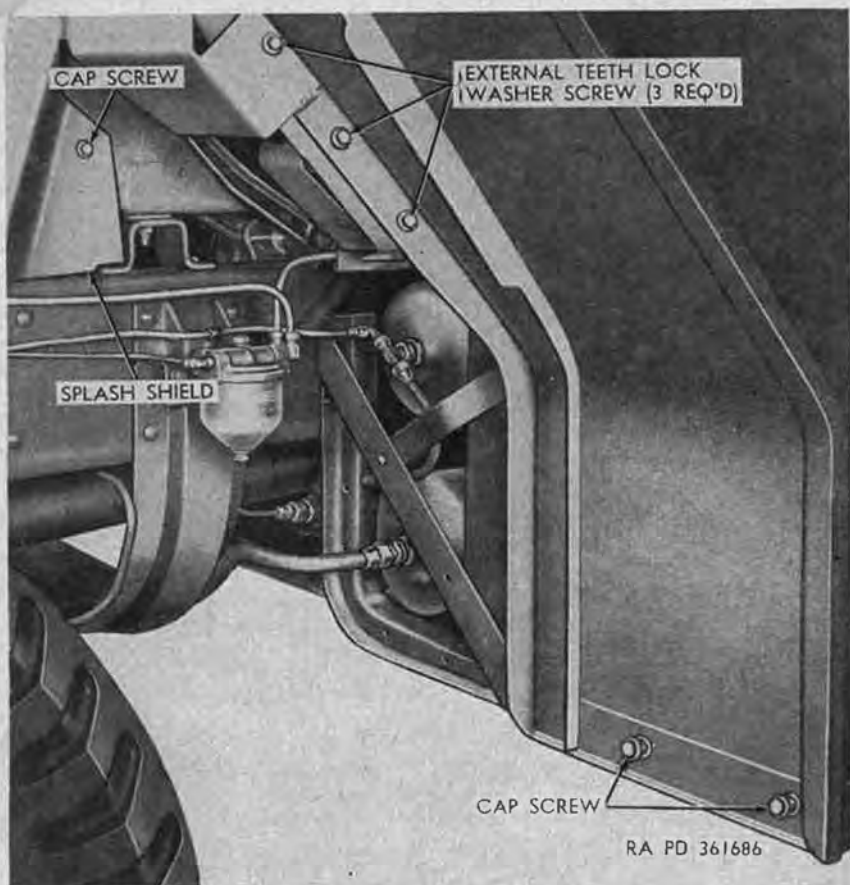

Figure 335. Front view of left front fender rear mounting.
- (10) Remove two cap screws (fig. 335), rubber spacers, springs, washers, and nuts securing rear end of fender to running board.
- (11) Remove cap screw (fig. 335) securing splash shield to cab cowl.
- (12) Support rear end of fender, and remove three external-teeth lockwasher screws (fig. 335) securing fender to cab. Lift fender from mounting support, and remove from vehicle.
- (1) Place fender in position with front end resting on fender mounting bracket (fig. 262). Aline mounting holes in rear end of fender with holes in running board, and secure fender to running board with two cap screws (fig. 335), rubber spacers (one between fender and running board), springs, washers, and nuts. Do not tighten nuts.
- (2) Install radiator upper shield (par. 135*b*(6)) but do not tighten bolts.
- (4) Make sure that cowl panel to fender well is in correct position, and install three external-teeth lockwasher screws (fig. 335).
- (5) Secure rear of splash shield (fig. 335) to cab cowl with cap screw.
- (9) Tighten two nuts on cap screws (fig. 335) securing fender to running board, and tighten bolts securing radiator upper shield to headlight support brackets.